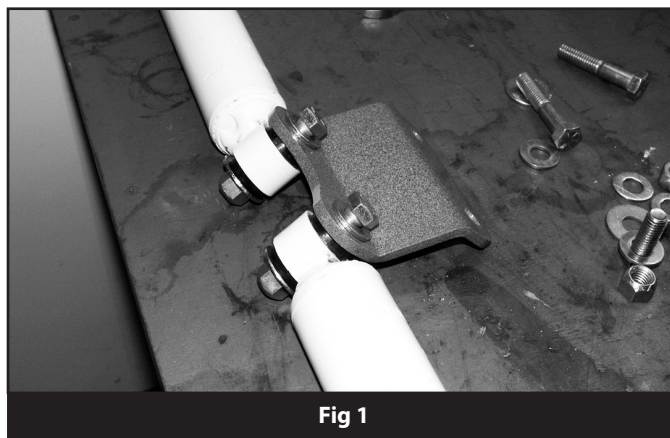

Fig 1
3. Locate the provided center offset mounting bracket (01540). Loosely install the body end of the stabilizer cylinders to the bracket with  $\frac{1}{2}$ " x 2- $\frac{1}{2}$ " bolts, nuts and  $\frac{1}{2}$ " washers using the holes on the contoured end of the bracket. Use a SAE (small) washer at the bolt head and a USS (large) washer at the threads (Fig 1) The cylinders mount to the outside surface of the bracket (opposite the bend) – see figure 1. The bolt heads must be to the inside of the bracket (bend side).